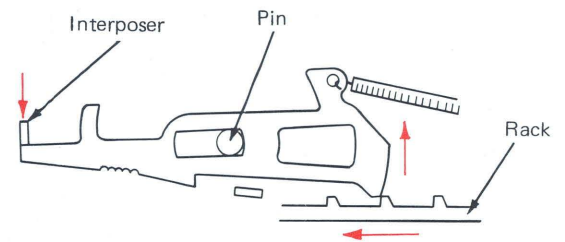

Figure 5 – Escapement Pawl Operation (Top View)
2. The escapement pawl is removed from the rack by motion of interposer applied to its tail (Figure 5). The escapement pawl pivots on the mounting pin; the pawl spring pulls the pawl to the right as soon as it clears the rack tooth.